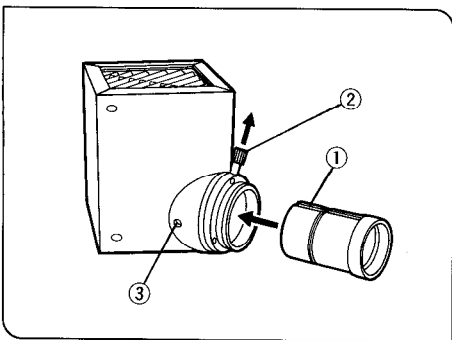
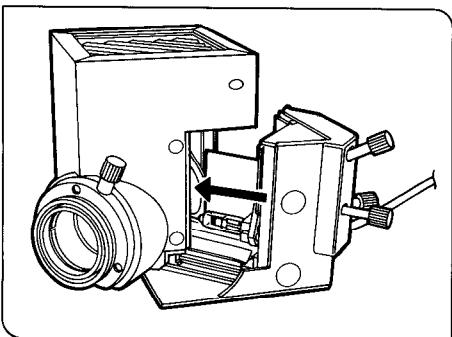

Fig. 22
Fig. 23
(Figs. 22, 23)
1. Align the collector lens positioning groove ① with the pin inside the lamp mount. Then, pull up the collector lens focusing knob ②, and insert the collector lens until it comes to the end. (Fig. 22)
2. Securely fasten the collector lens with the clamping screw ③.
3. Remount the lamp socket in the reverse order of removal. (Fig. 23)